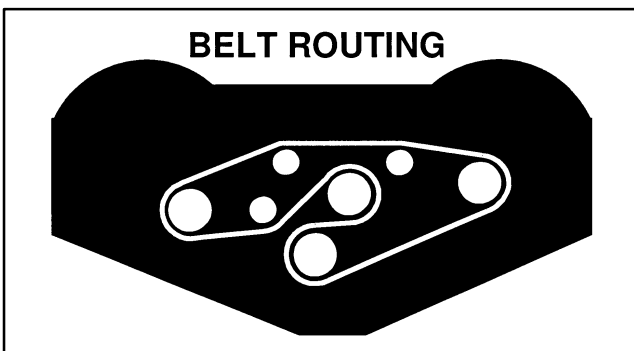

Figure 30
5. Route new belt around spindle pulleys and idler pulley assembly, as shown in figure 30.